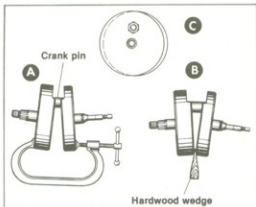

Figure 3-50. Correcting Flywheel Alignment
- Flywheel may be out of true three ways, A, B and C, in Figure 3-50 or a combination of two of the three ways.